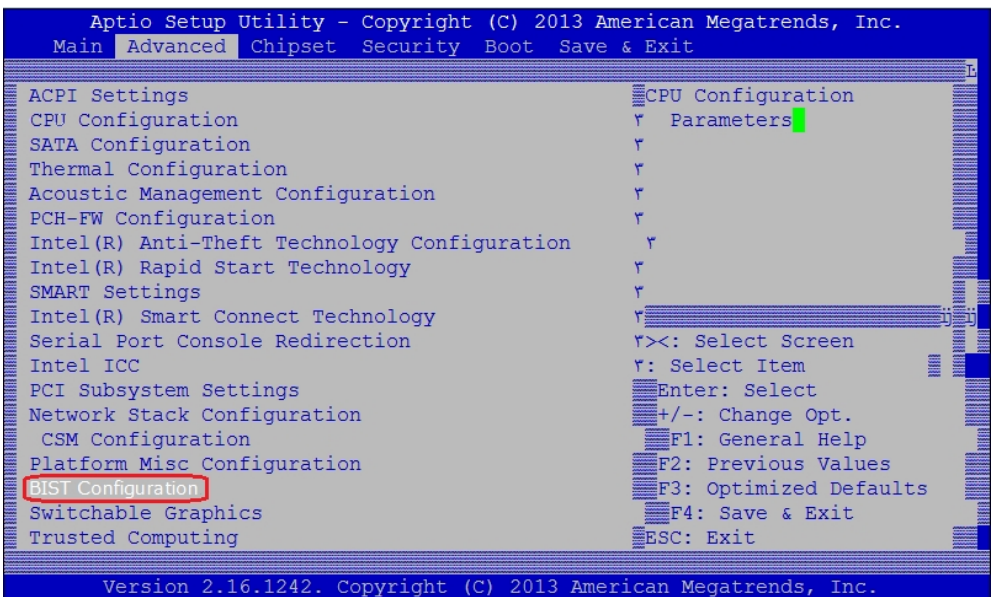

Figure 7-12: Selecting the BIST Configuration option
1. In the BIOS Menu, select the Advanced tab, and then select *BIST Configuration* (Figure 7-12 below)